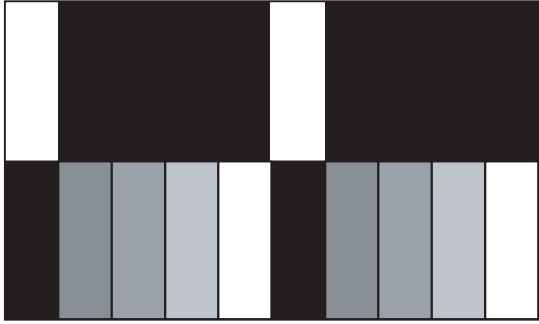

Fig.2
| COMPONENT INPUT BLACK LEVEL | Remote control unit | | [8.PP] ADM013: (NO DISPLAY) (G offset) | (1) Input 525i signal that shows brightness gradation with 0% black into a component input terminal. (2) Set "VIDEO STATUS" to STANDARD. (3) Set "ASPECT" to FULL. (4) Select "COLOR TEMPERATURE" to LOW. (5) Select "1.PICTURE/SOUND" from the SERVICE MODE. (6) Set < F44 > (Picture control) to "001" and < F45 > (Picture control mode sw) to "000" to set Y ADJUST MAX MODE. (7) Set < F46 > (Output level upon detection), < F47 > (Minimum value upon detection), and < F48 > (Maximum value upon detection) to values as shown in the left table. (8) Press the [MUTING] key to memoirize the set value. (9) Select "8.PP" from the SERVICE MODE. (10) Adjust < ADM013 > (G OFFSET) to set the 0% black part on the upper half of the screen to maximum brightness. (Fig.2) (11) Add reference offset value "0" to the < ADM013 > (G OFFSET) value. (12) Press the [MUTING] key to memoirize the set value. (13) Select "1.PICTURE/SOUND" from the SERVICE MODE. (14) Check the black level. Adjust the black level again if it is not proper. (15) Set < F44 > (Picture control) to "001" to cancel Y ADJUST MAX MODE. (16) Press the [MUTING] key to memoirize the set value. (17) Input 1125i signal. (18) Repeat steps (5) to (16) above. |